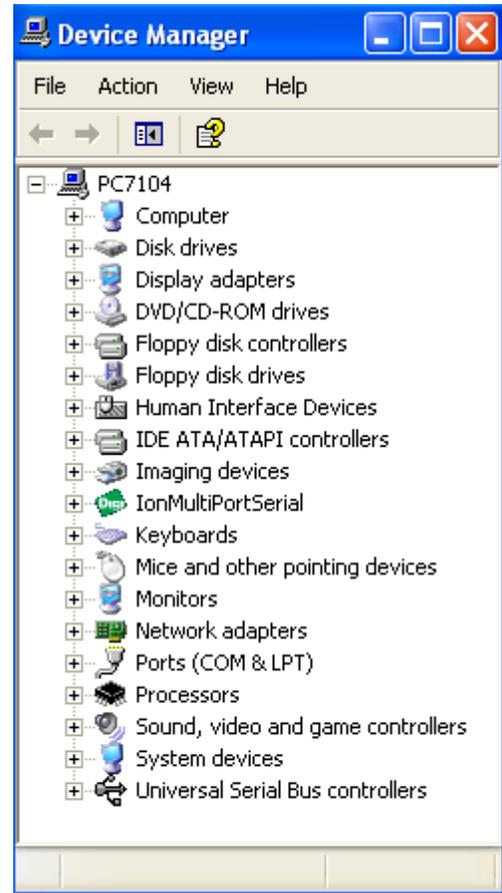

FIG. 6
4. On the list of devices displayed in Device Manager, click on the plus (+) sign in front of “Ports (COM & LPT)”. See FIG. 6.